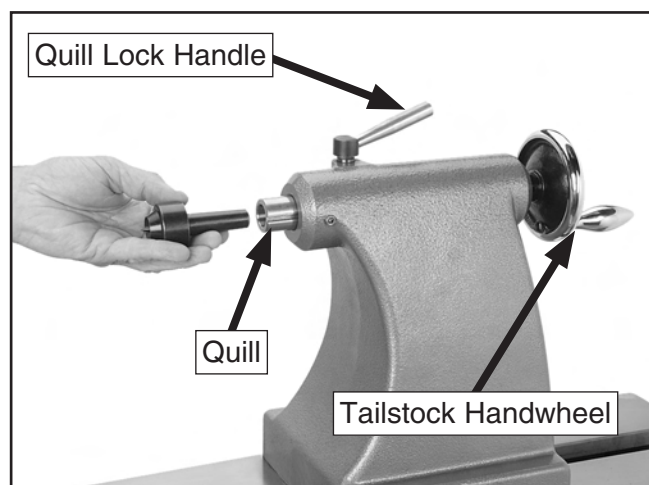

Figure 18. Installing center into tailstock quill.
1. Loosen the quill lock handle and rotate the tailstock handwheel until the quill extends about 1" (see **Figure 18**).
3. Insert the tapered end of the center into the tailstock quill, as shown in **Figure 18**.